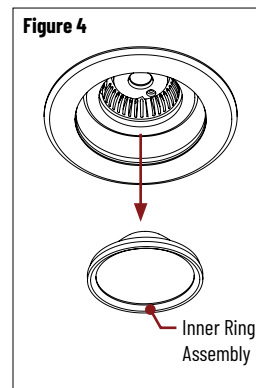

Figure 4
4. Remove inner ring, optic and lens from luminaire. (Figure 4)